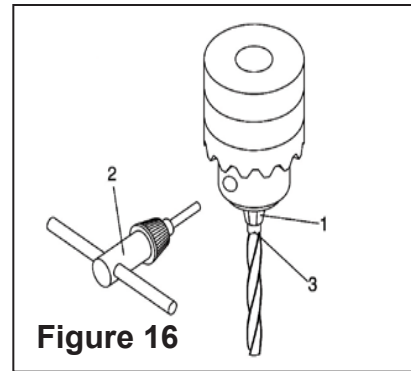

Figure 16
How to check and adjust the Laser Beam Alignment: Check the laser beam alignment to ensure the intersection of the laser lines precisely at the spot where the drill bit meets the workpiece. If it is not, the laser lines should be adjusted using the laser adjustment knobs located on the opposite sides of the head assembly. **See Fig. 16**
1. Installing A Drill Bit See Fig. 16
1. Mark the depth (1) of the hole on the side of the workpiece. (Figure 16).